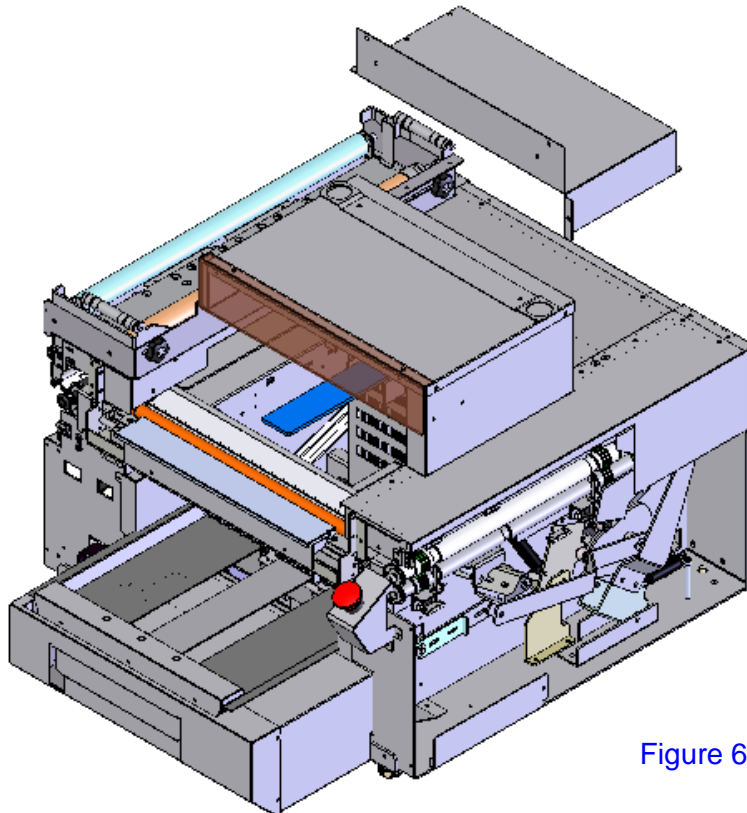

Figure 6.
11. Remove the rear, upper cover (seven screws). See Figure 6.